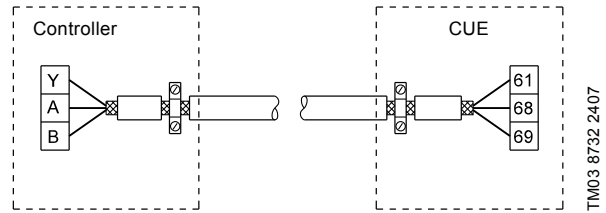
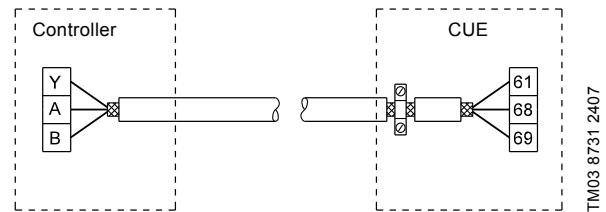

Fig. 47 Example of connection of a 3-conductor bus cable with screen connected at both ends
Fig. 48 Example of connection of a 3-conductor bus cable with screen connected at the CUE (controller with no cable clamps)
- Connect the screen to frame at both ends for both motor and signal cables. See fig. 47. If the controller has no cable clamps, connect only the screen to the CUE. See fig. 48.